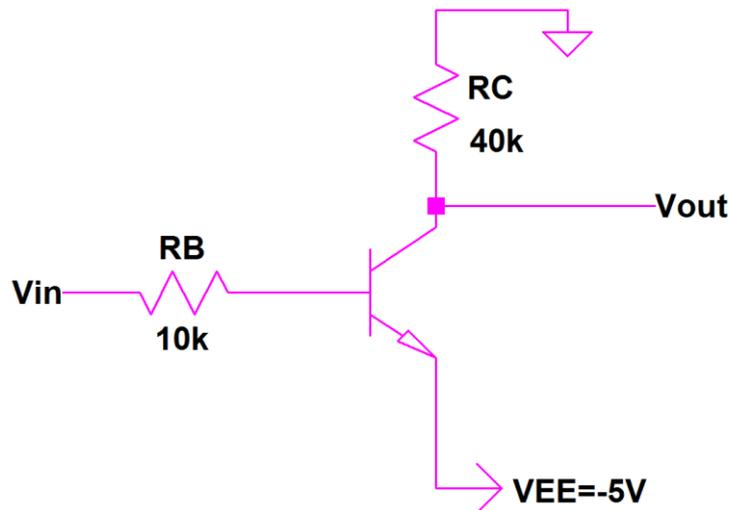

Fig. 3: BJT inverter
5) Sketch the VTC of the circuit in Fig. 3 by finding the critical voltages, V_{OH} , V_{OL} , V_{IL} , V_{IH} . In addition, find **noise margins**.